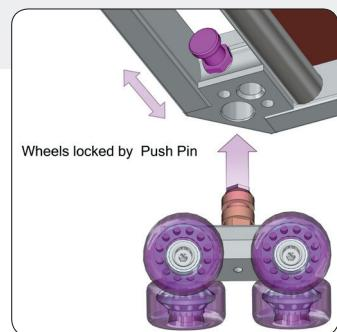

Fig.1
- > All the dollies are fitted with four push-bar fixings. (Fig.1)